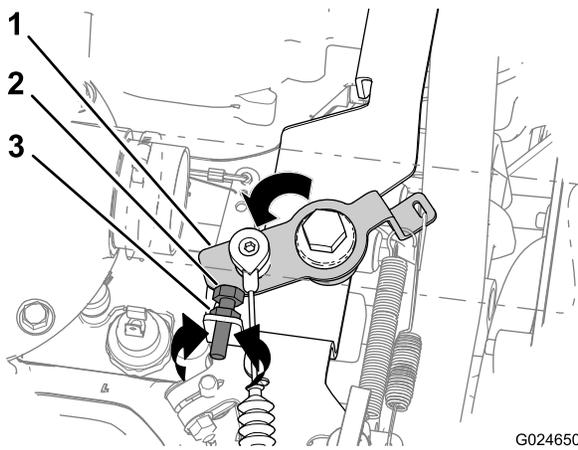
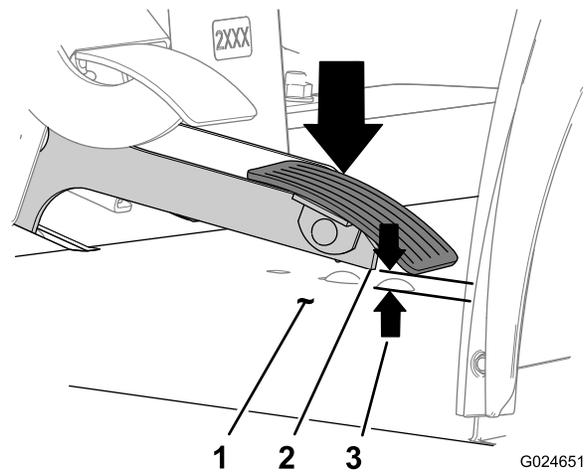

Figure 85
Figure 86
2. With your hand, move the bellcrank for the throttle against the fast-idle stop (Figure 85).
- A. Loosen the jam nut that secures the fast-idle stop (Figure 85).
- Clockwise to decrease the engine rpm (Figure 85).
- Counterclockwise to increase the engine rpm (Figure 85).
- C. Tighten the jam nut (Figure 85).
- D. Move the bellcrank against the fast-idle stop (Figure 85).
3. If the gap between the accelerator pedal and the floor (Figure 86) is larger than or smaller than 6.35 mm (1/4 inch), perform the following while holding the bellcrank against the fast-idle stop (Figure 85):
1. Move the bellcrank against the fast-idle stop and hold it against the stop (Figure 85).
2. Measure the gap between the accelerator pedal and the floor beneath the pedal (Figure 86).